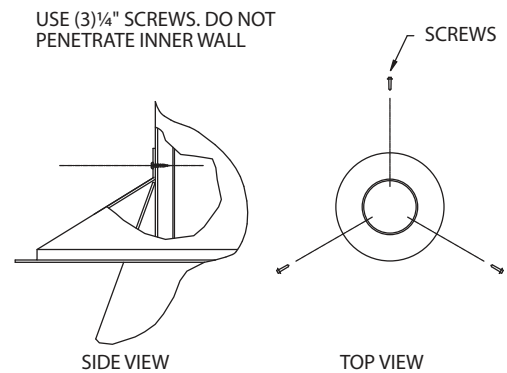

Figure 29
(h). Storm Collar. Slide the Storm Collar over the pipe down to top of the Flashing. Secure the Storm Collar in place with at least (3) 1/4" sheet metal screws (**Figure 29**). Do not penetrate the inner liner. The Storm Collar and Flashing will support the weight of the vent assembly. Use non-hardening sealant around the top of Storm Collar to make a weatherproof seal.
(g). Storm Collar. Slide the Storm Collar over the pipe down to top of the Flashing. Secure the Storm Collar in place with at least (3) 1/4" sheet metal screws (**Figure 29**). Do not penetrate the inner liner. The Storm Collar and Flashing will support the weight of the vent assembly. Use non-hardening sealant around the top of Storm Collar to make a weatherproof seal.